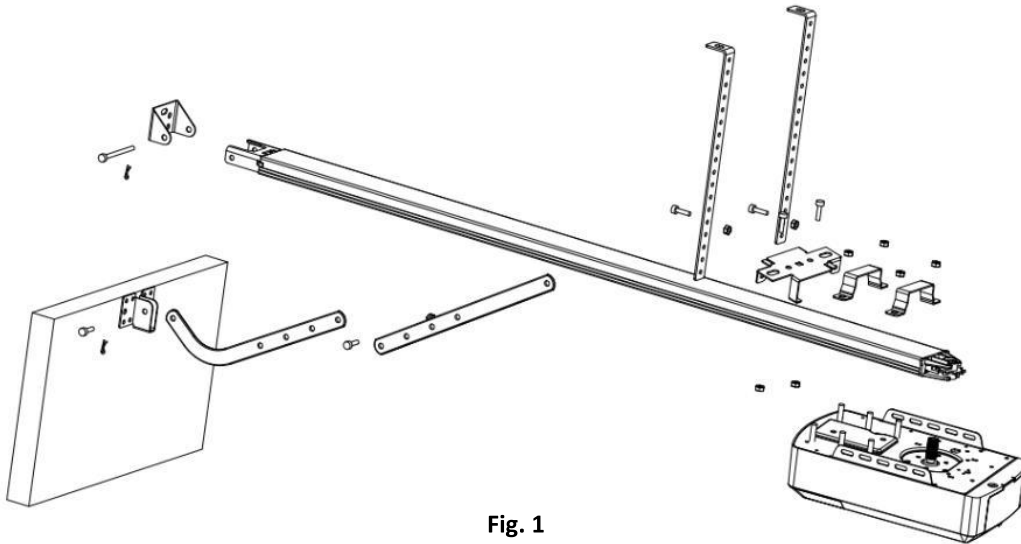

Fig. 1
- 1.1 On a clean, smooth surface, unpack the Drive Rail, Power Head and two “U” type brackets with Nyloc Nuts as shown in (Fig.1)
- 1.3 Attach the two “U” type brackets over the rail and secure to the motor head with the M6 Nyloc Nuts provided. (Fig.1)